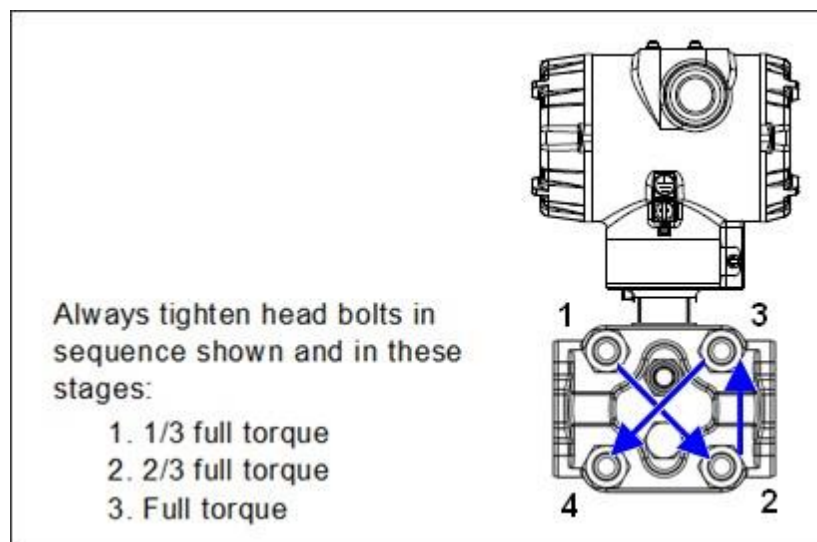

Figure 66 – ST 700 Basic Transmitter - Head Bolt Tightening Sequence
8. Refer to Figure 66. Use a 2mm hex wrench to completely loosen the set screw on the outside of the housing to permit rotating the meter body.
15. Refer to Figure 66. Apply Dow Corning #33 silicone grease to the meter body adapter O-ring and carefully assemble the O-ring to the meter body. Assemble the process head(s) and bolts to the new meter body. For now, make the bolts only finger-tight.